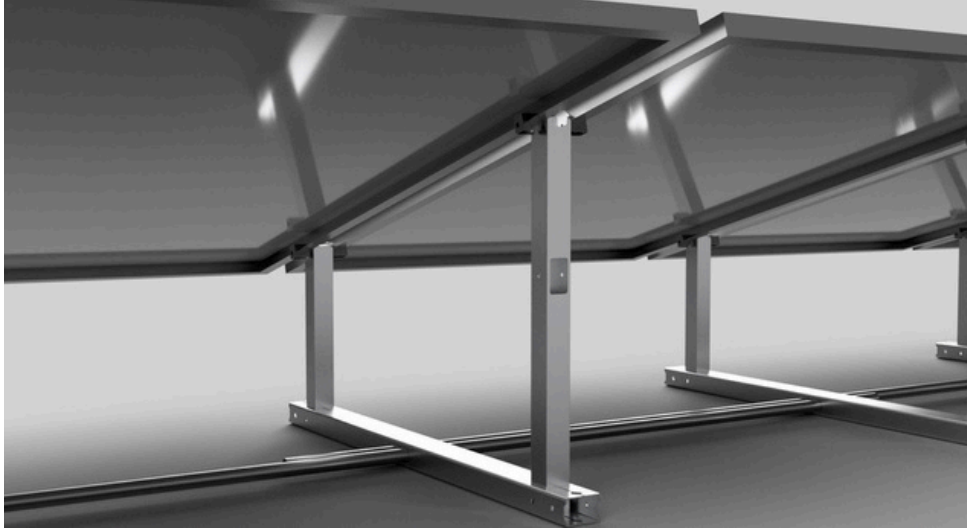

Figure 36
- We recommend installing the tall leg with the opening facing the back of the frame (See Figure 36).